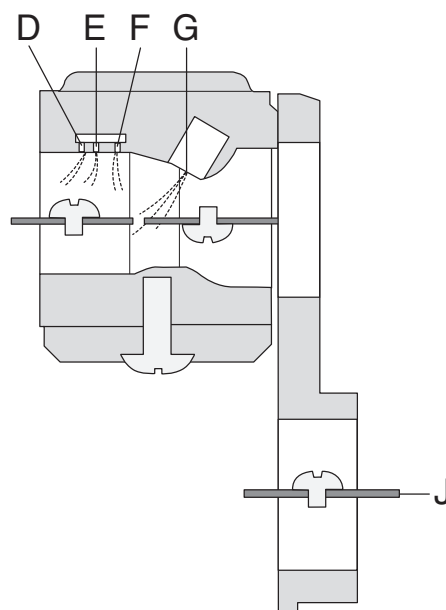

Fig. 7
10. Exercise care to ensure that the clutch drum and oil pump gear fit in the drum's cut-out. See fig. 7.
In full throttle mode (fig. 7) all valves are open and fuel is supplied through all diffuser jets (D, E, F and G). Extra air inlet (J) is also fully opened.